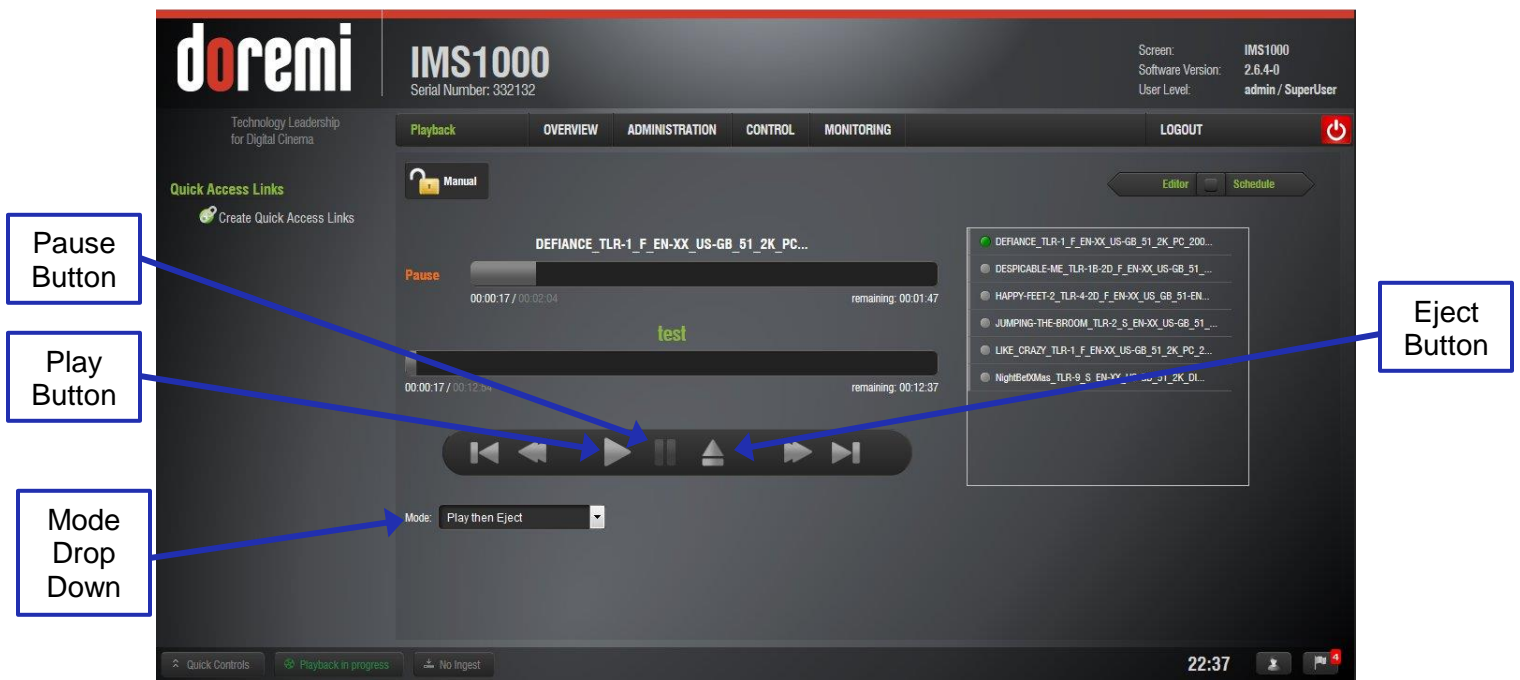

Figure 267: Playback Tab
- Next, go to the Playback tab from the CineLister GUI (Figure 267).
- Click the Play button to load the Playlist (Figure 267).
- Use the Pause button to pause the playback (Figure 267).
Note: Clicking the Eject button will eject the SPL (Figure 267).
- Select the playback mode from the Mode drop-down list: Play, Loop, Play then Rewind, or Play then Eject (Figure 267). The user will be prompted to a password window to